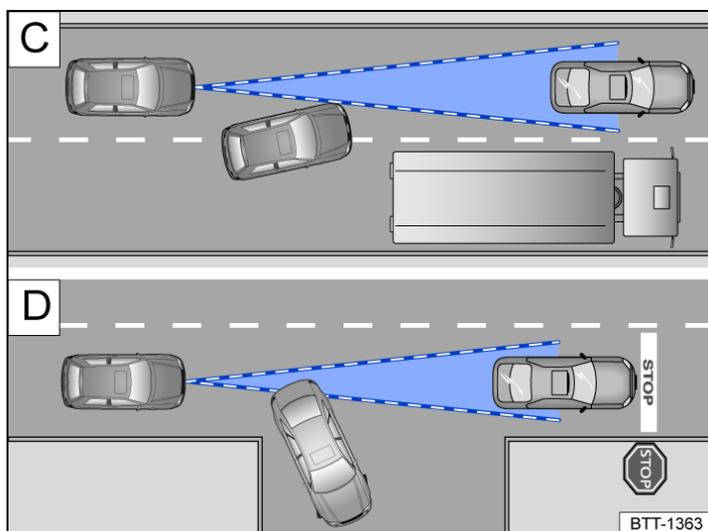

Fig. 2 **C** Vehicle changes lane. **D** Turning and stationary vehicle.
If a stationary vehicle is hidden behind a vehicle that has been detected by the adaptive cruise control and this vehicle turns off the road or changes lane, the ACC will not react to the stationary vehicle [→ Fig. 2 \[D\]](#).
- Vehicles that change into your lane directly in front of your vehicle [→ Fig. 2 \[C\]](#).